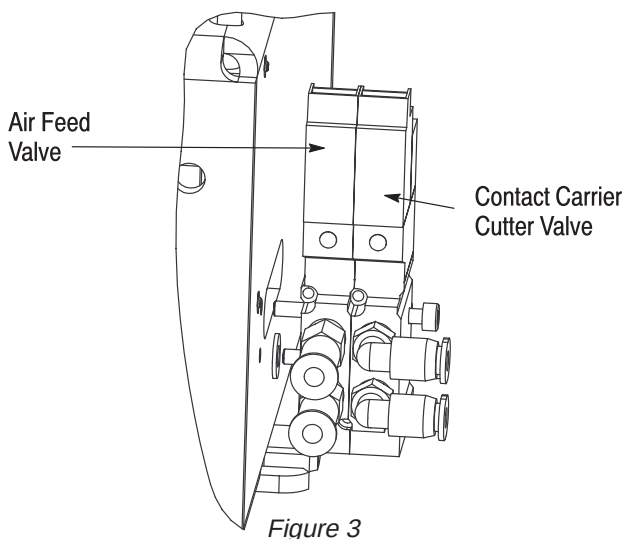

Figure 3
6. Use the provided hardware to mount the valve to the terminator base (Figure 3).
Be sure to position the provided washer behind the valve on the lower screw. (See Figure 3) and secure the control line in the provided "P-clip."
If the optional contact carrier cutter valve is also installed, position the air feed valve underneath as shown in Figure 3.